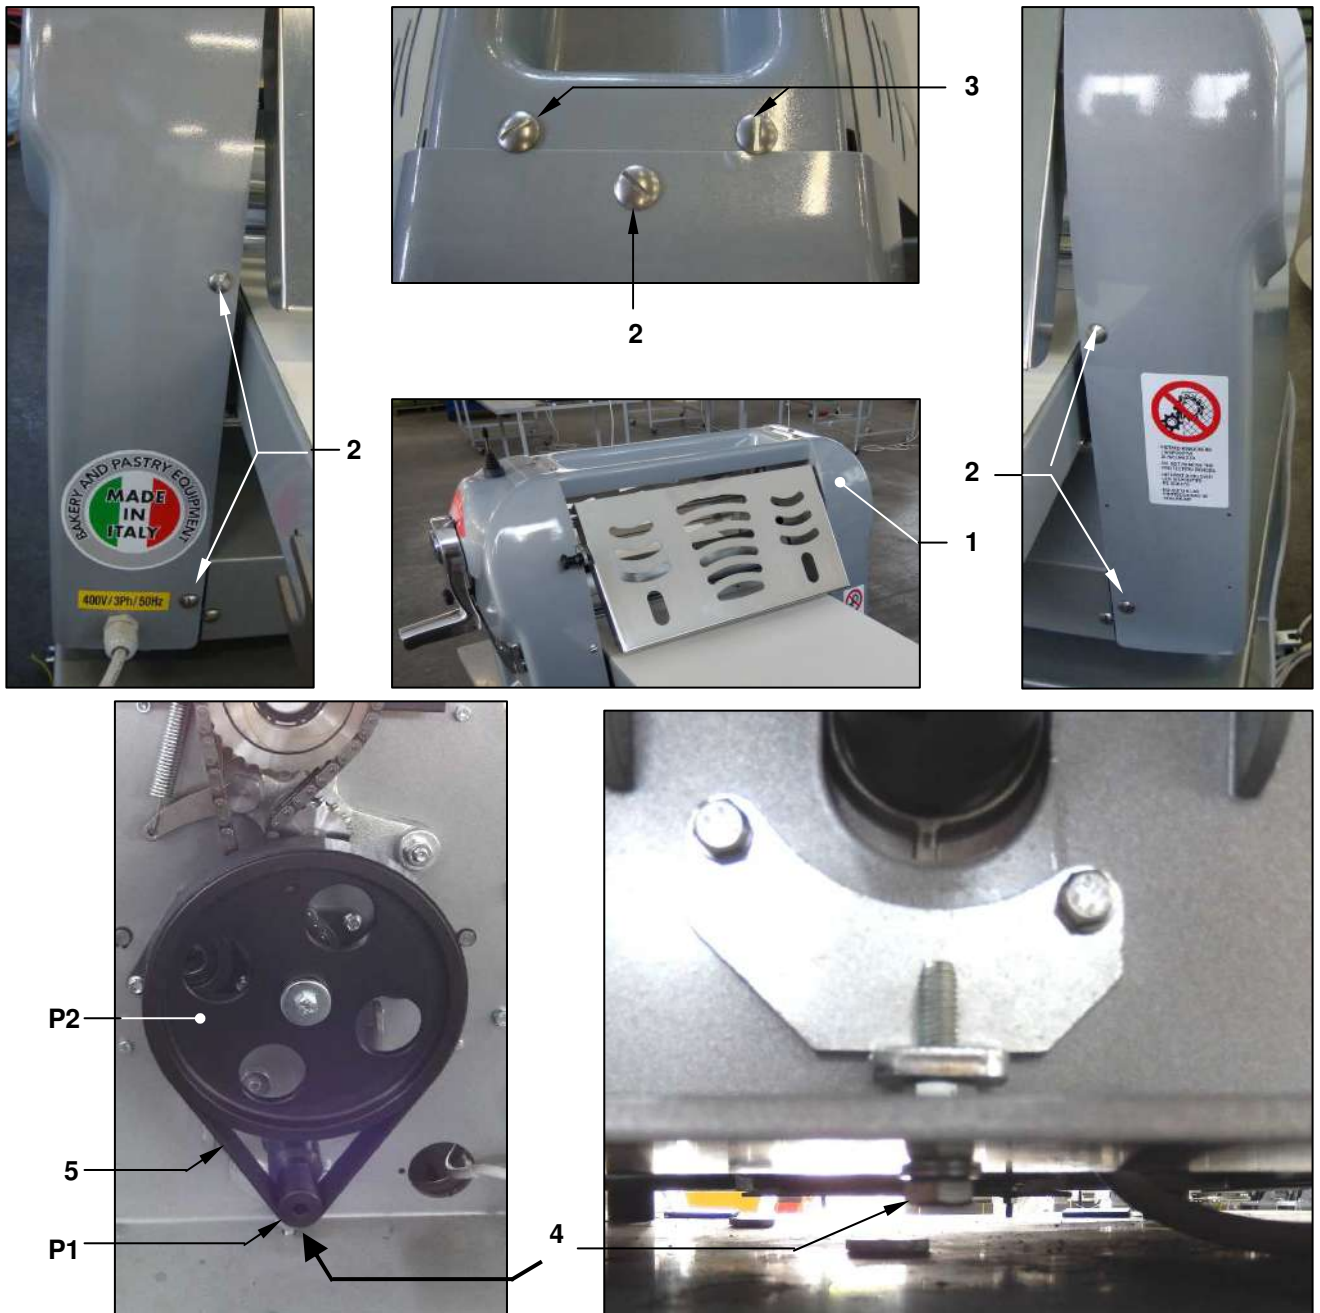

Figure 30 - Mod. SF450: adjusting the tension of the drive belt
With reference to Figure 30, to adjust the tension of the drive belt ref. 5:
- remove the guard ref. 1 on the side opposite the controls. To do this you must remove the five screws ref. 2 and loosen the two screws ref. 3 just enough to remove the guard. Place the guard in safe place and in a stable position.
- using an open end spanner, turn the screw ref. 4 until the tension of the belt ref. 5 is correct. In this case consider: A = 2,1 mm T = 26,4 N (60 Hz) T=26,5 (50 Hz) (for T see section 4.3.1)
- when finished, replace the guard ref. 1 making sure that its upper edge is placed under the heads of the screws ref. 3 and then insert and tighten the screws ref. 2. Lastly, tighten the screws ref. 3 so that their heads compress the edge of the guard ref. 1.